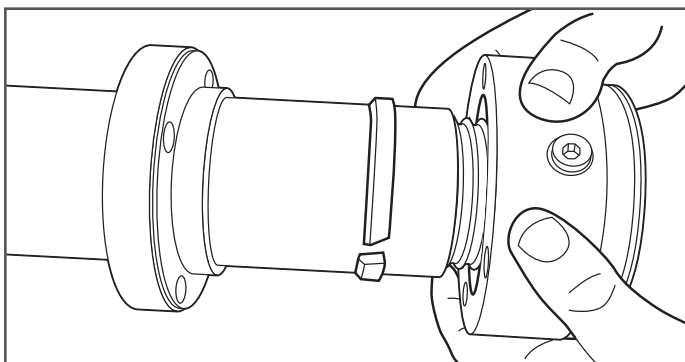

Figure 8-7
7. Retirez la section centrale du raccord DoubleTrac® (Figure 8-7).